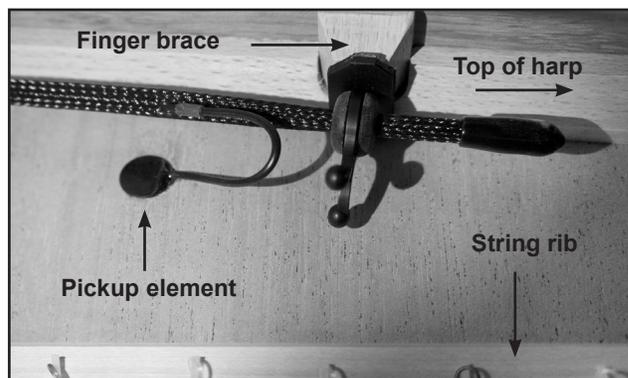

Figure 8 – FH36S Pickup Element and Lead Wire
- f. For the FH36S, because the harness clips attach to the finger braces instead of the soundboard lining, the pickup element lead wires will bend downward, toward the bottom of the harp (*see figure 8*).